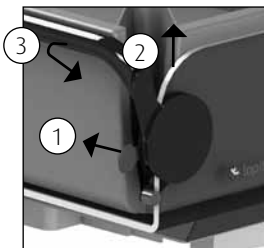

Figure 2: Side bar Siracco
- *Wall mounted stretcher / dressing table:* Unlock the safeguard by using one hand to pull the protruding lip / button (1) outwards and raising the side-bar with your other hand. (See Figures 2 and 3).